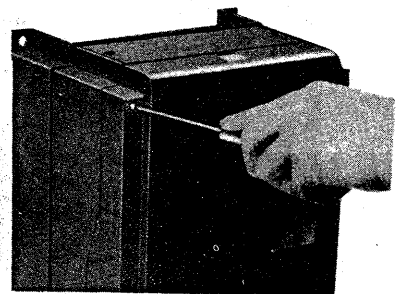

Fig. 7 How to fix the cover with screws
- Remove the front cover and make holes in the cover from the rear face with a drill, etc. (Two points on right and left at top as shown in Fig. 7) Hole diameter 4.5 to 5 mm.